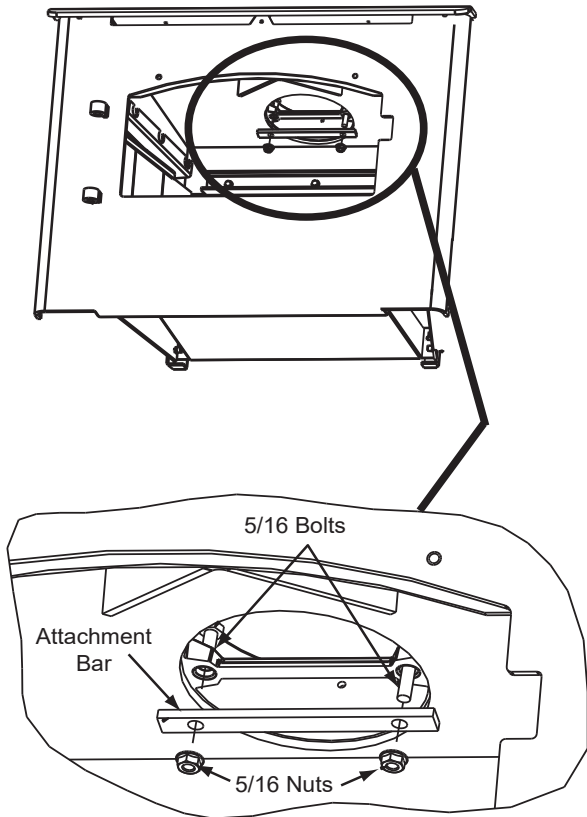

Figure 19.1
1. Once you have the appliance in place and secured, reach up through the flue opening and grab the attachment bar and pull down inside flue opening (**Figure 19.1**).